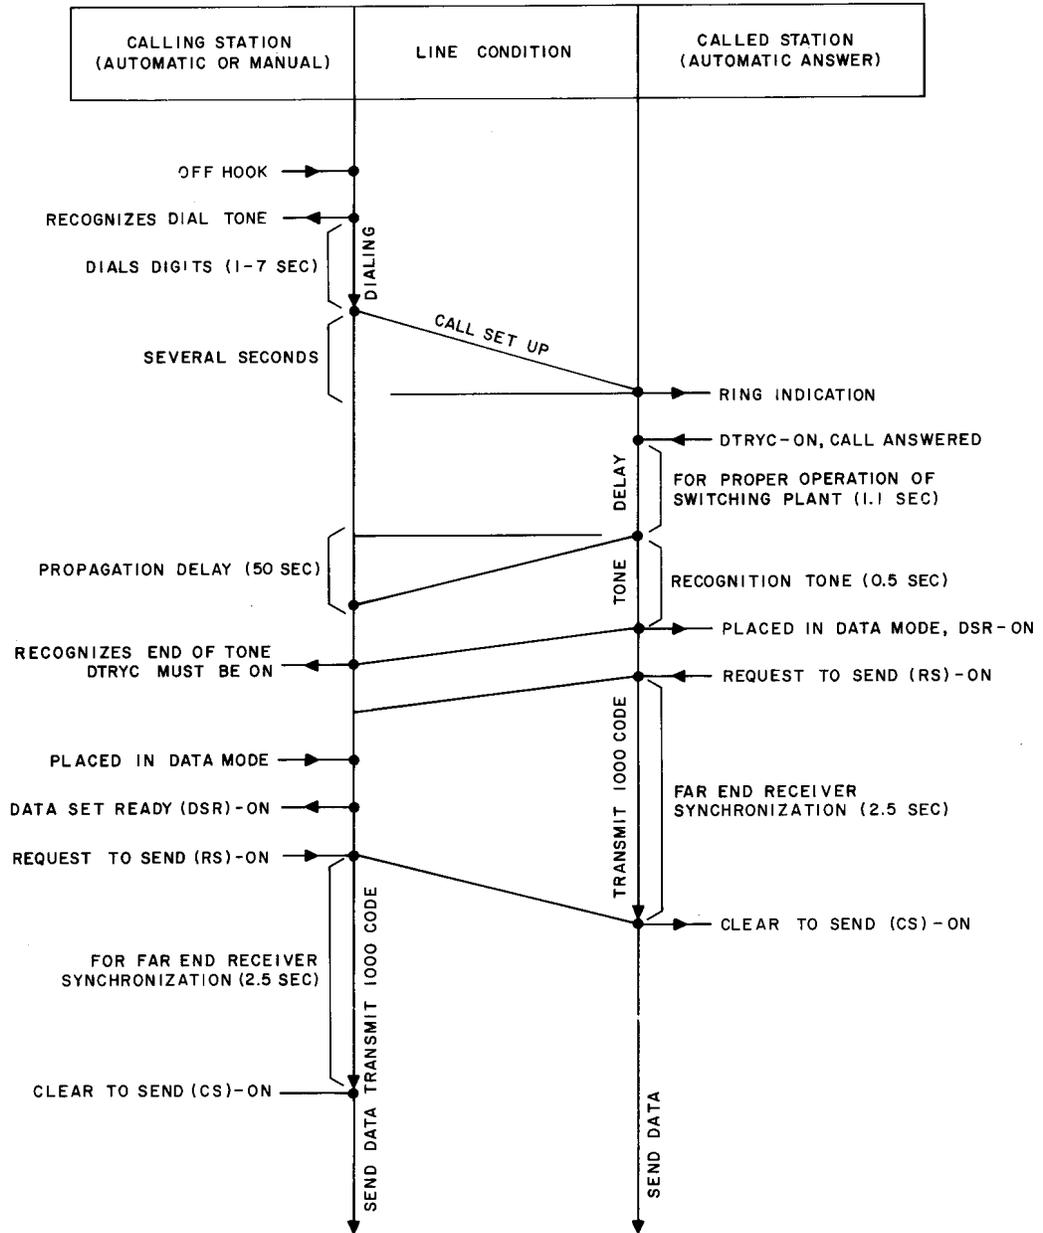

Fig. 2 — Sequence Diagram for Switched Operation (Data Set 205B2 Only)
2.04 The Data Set 205B2 will operate on a 4-wire switched network when used in conjunction with a line control unit, such as the DAS 804M. In addition, a DAS 801C4 may be used to provide automatic calling. Figure 2 is a time-sequenced diagram that shows the procedure for originating a call to a called station by using the switched carrier automatic answer mode.